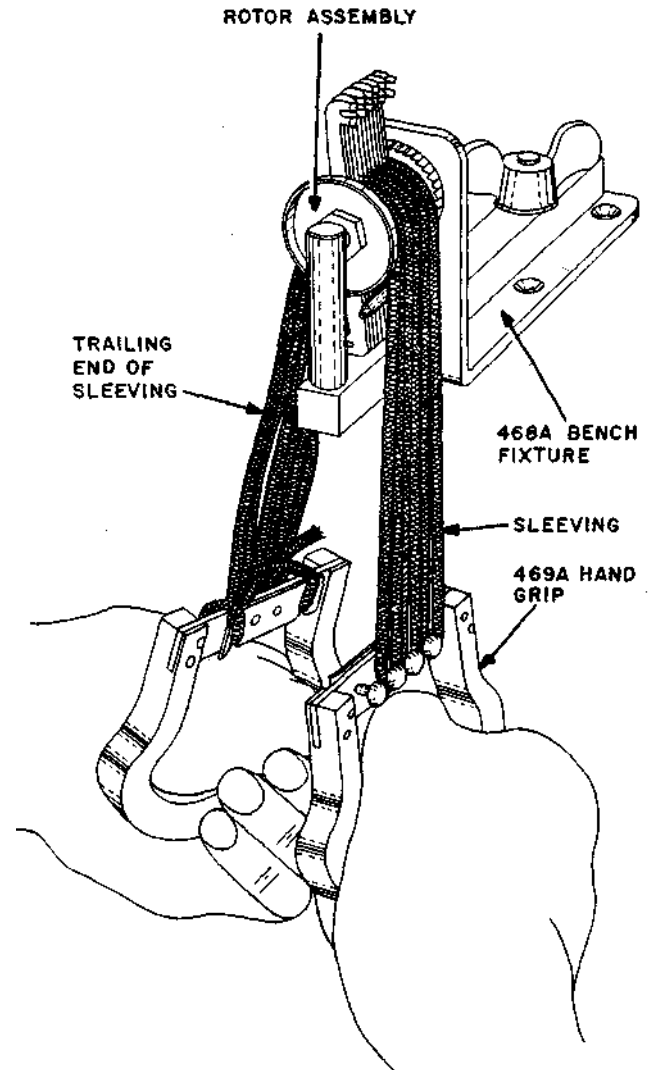

Fig. 11—Method of Cleaning Rotor Assembly
3.25 In cleaning, hold the grip which is being pushed so that the strings cover as much of the hub on that side as possible. At the same time have the trailing end slack, as shown in Fig. 11.. A downward movement of the right hand followed by a downward movement of the left hand is to be considered one stroke. Each movement shall be as long as the sleeving conveniently permits.
3.30 In treating, hold the grip which is being pushed so that the strings cover as much of the hub on that side as possible. At the same time have the trailing end slack, as shown in Fig. 11. A downward movement of the right hand followed by a downward movement of the left hand is to be considered one stroke. Each movement shall be as long as the sleeving conveniently permits.